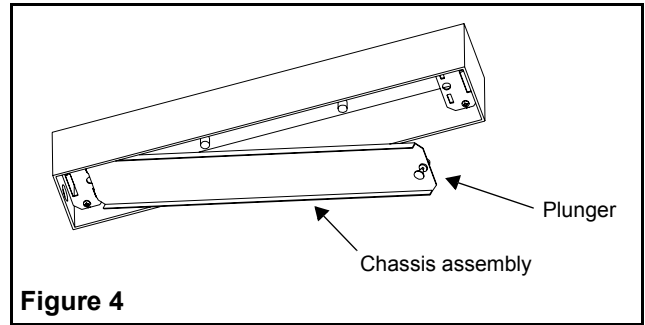

Figure 4
10. Install the chassis assembly into the back box by hinging the plate into the pivot holes and move the plate to the closed position. Push the plunger into the hold down grommet (see fig. 4).